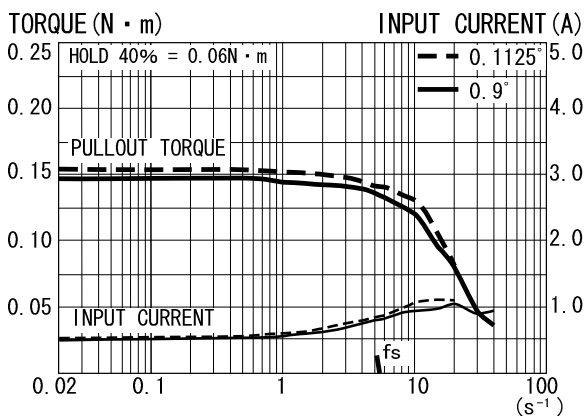
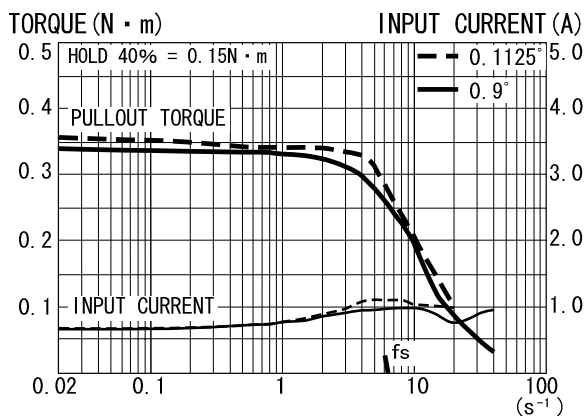
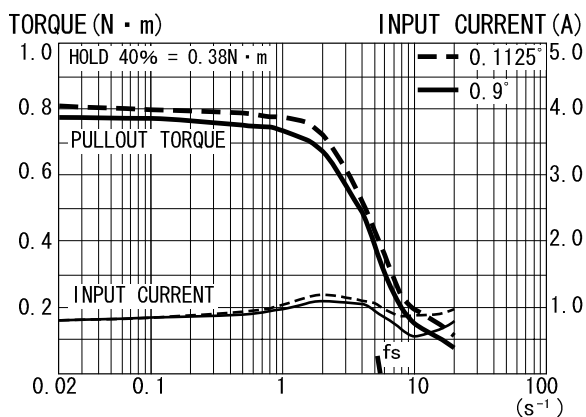

Fig. 8
Fig. 9
Fig. 10
| PK264-01A (B) PK266-01A (B) PK268-01A (B) | 1.8 | 1.0 | 6 | Fig. 8 Fig. 9 Fig. 10 |